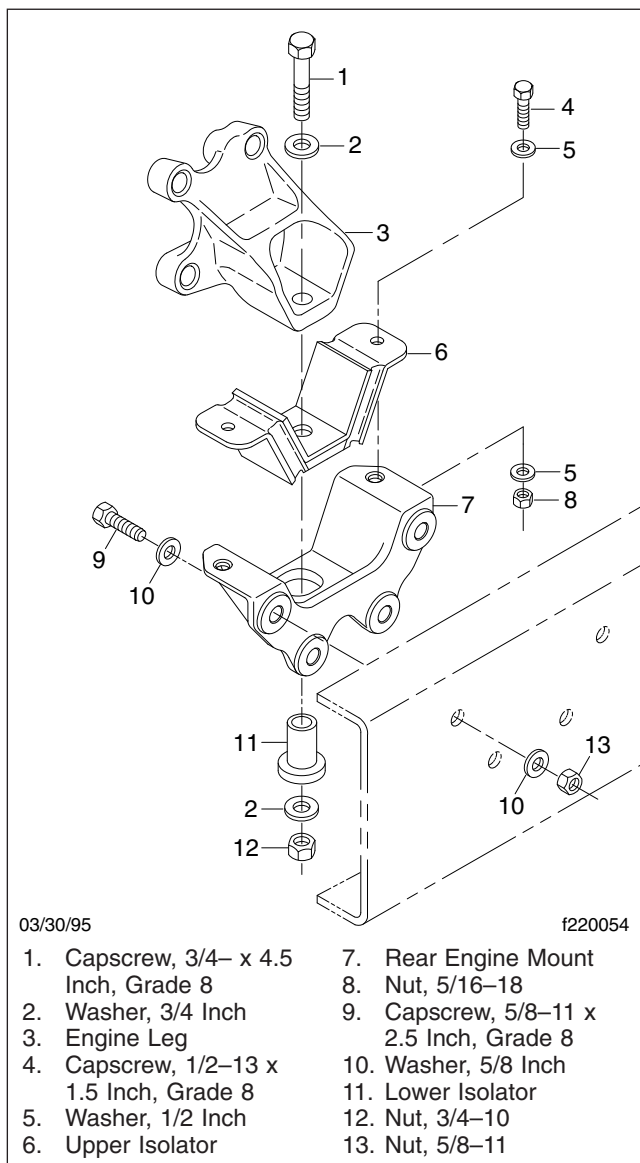

Fig. 13, Rear Engine Mount Assembly (pre-EPA07 engines)
Frame brackets and components secured with Huck-bolt® fasteners do not require a torque check, however, they should be inspected for damage. Frame brackets and components secured with conventional bolts and nuts are to be checked at Initial Maintenance (IM). See **Fig. 13** for pre-EPA2007 engine mounts. Check the torque of frame fasteners to offset the effects of "bedding in" (or seating). When checking torque, torque the nut, not the bolt head whenever possible. This will give a true torque reading by eliminating bolt-body friction. When checking the torque of frame fasteners, inspect the frame for cracks and other damage. Set a click-type torque wrench to the maximum torque of the fastener you